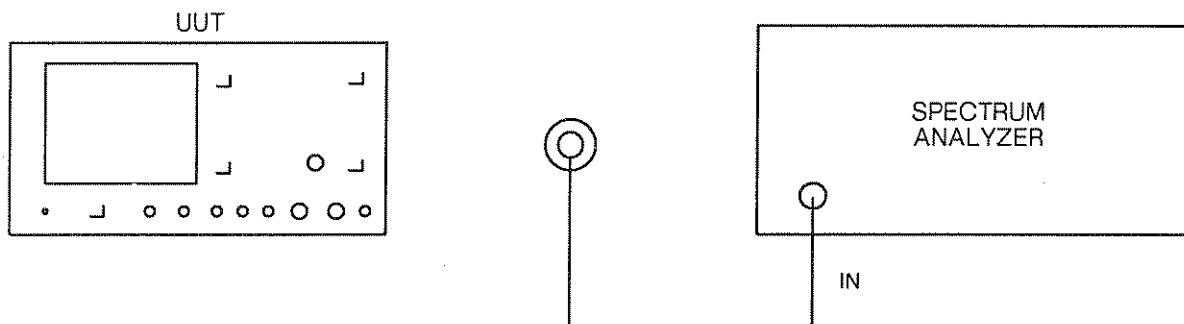

Fig. 5-24 Test equipment connections for RF generator RF leakage
- (1) Connect the equipment as shown in Fig. 5-24, with the 50  $\Omega$  load connected to the BNC output socket.